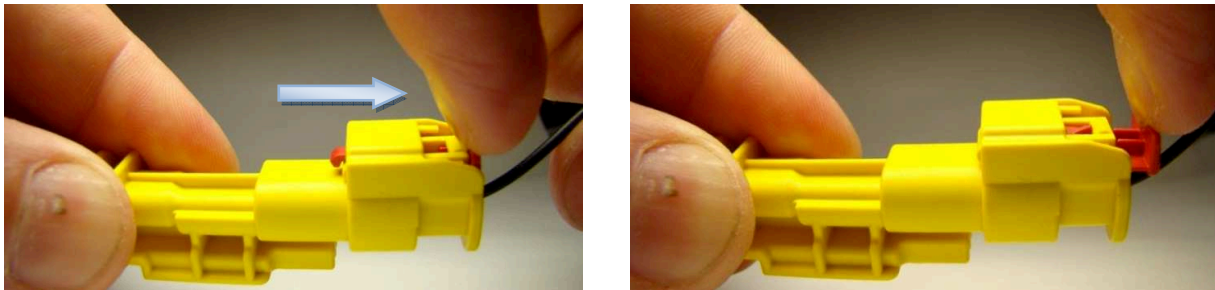

Figure 2
1. Disengage the CPA by pulling back as shown in Figure 2.